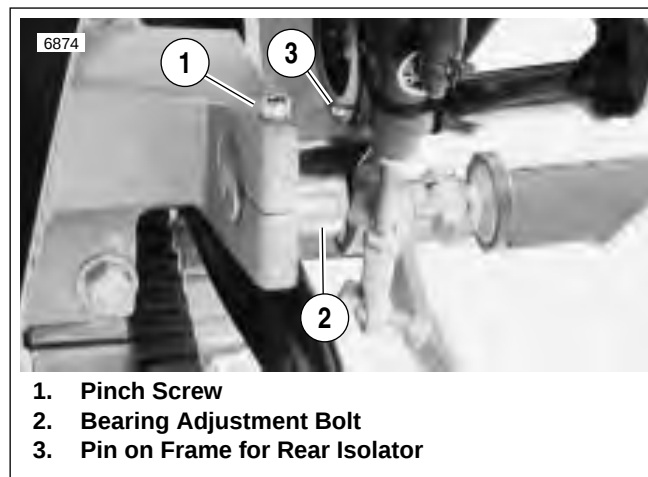

Figure 2-64. Swingarm Mount Block, Right Side
16. Using floor hoist, raise frame enough to remove both rubber isolators (6) from frame mounted pins.
17. Loosen swingarm pinch screw (4) on right side.
18. Remove threaded rod (1) from between bearing adjusting bolts (2, 3).
20. See Figure 2-64. Using floor hoist, raise frame while pushing down on swingarm. Frame must be raised until bearing adjustment bolts (2) clear pin on frame and can be removed.